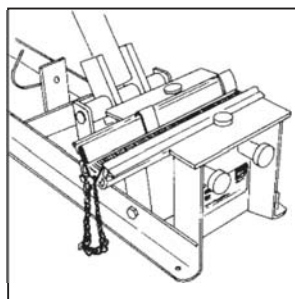

Figure 4
7. MOVE EACH PRESSURE PLATE TO END OF JAWS. Remove lacer pin and place card of hooks into Lacing Tool. Leave the two extra deep slots empty. Reinsert lacer pin (Fig. 4).